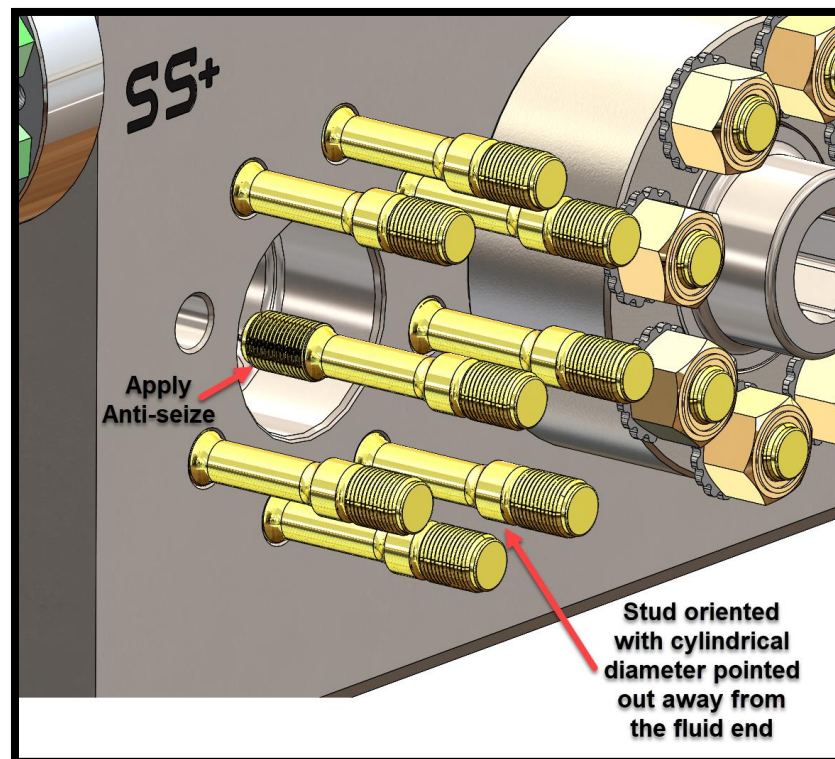

Figure 3- Access cover adapter flange stud installation
3. Thread the studs into the fluid end by hand until they fully bottom out. Studs must be oriented as shown in Figure 3. All of the studs must all be fully threaded in until they bottom out with the hole before proceeding to the next step.